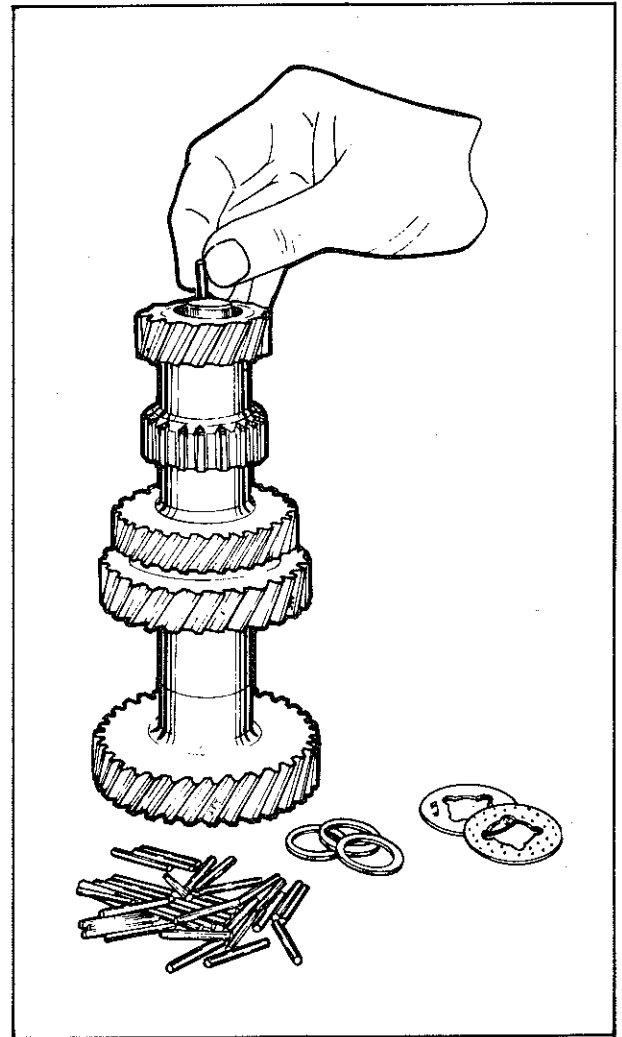

Fig. 20—Cluster gear assembly
(1) Insert the dummy countershaft into the cluster gear, insert the tubular countershaft spacer and install a cluster gear needle roller thrust washer into each end of the gear. Fit one set of 19 needle rollers to each end of the cluster gear, Fig. 20.